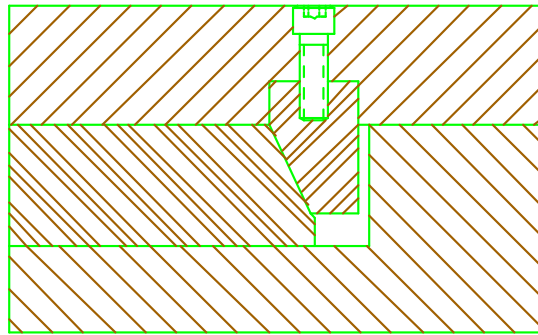

figure 4-4A
- 1) Standard heel block has a pocket depth approximately one half the bearing height. See figure 4-4A.